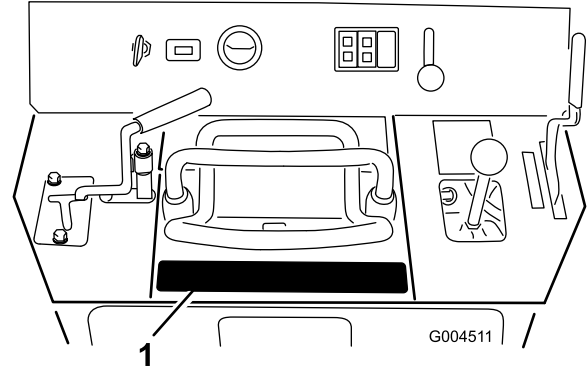

Figure 7
1. Clean the area behind the traction control (Figure 7) so that there is not dirt or grease on it.
2. Remove the backing from the decal and secure it in place (Figure 7).